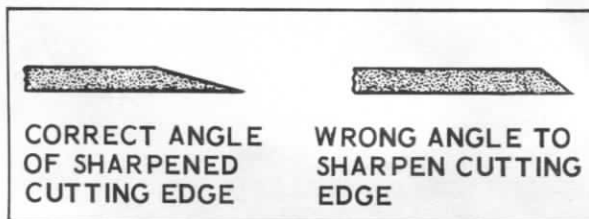

Figure 9.
9. Sharpening Blades: See Figure 9.
Check the mower blades periodically for nicks or dullness. Damaged or dull blades can cause a shattered rather than clean cut and brown areas may develop. The left picture, Figure 9, illustrates the correct angle at which to sharpen the blade cutting edges. If the cutting edge is sharpened at a blunt angle as shown in the right picture, the grass may also be shattered rather than cleanly cut.